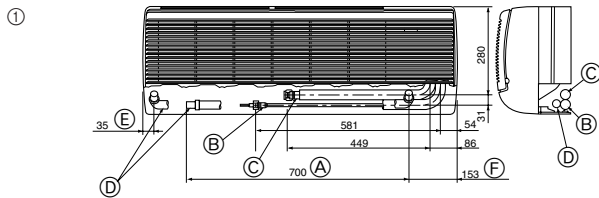
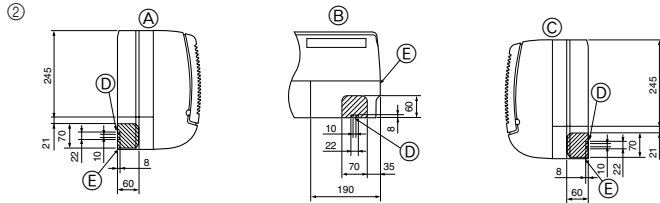
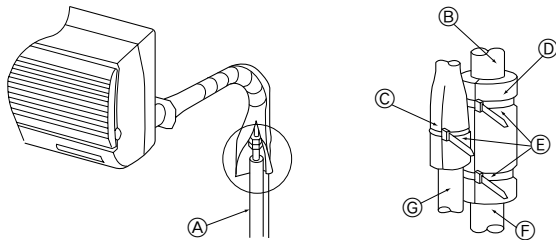

Fig. 4-3
Fig. 4-4
Fig. 4-5
① Position of refrigerant and drain piping (Fig. 4-3)
- (A) Total length of flexible hose
- (B) Liquid pipe
- (C) Gas pipe
- (D) Drain hose
- (E) Left-side piping
- (F) Right-side piping
② Determine the position of the knockout holes on the unit body. (Fig. 4-4)
- (A) Left-side piping
- (B) Lower piping
- (C) Right-side piping
- (D) Remote controller cable through hole
- (E) Corner box
4.4. Refrigerant piping (Fig. 4-5)